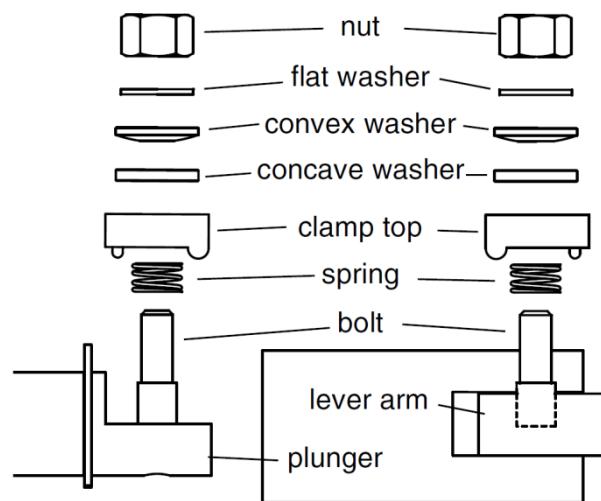

Figure 1: Washer Arrangement
1. Connect the apparatus as shown in Fig.1.
2. In the beginning without magnetic field record the number of count (N) per 60 s .
1. Remove the calibration bar and re-install the springs, clamps, washers, and nuts as shown in Figure 1.